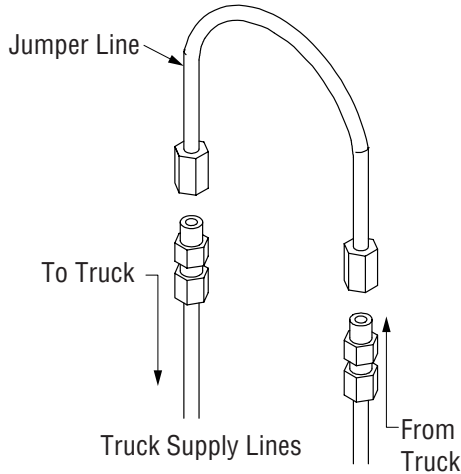

Figure 4-2, Jumper Line
5. For fork-mounted versions (LPF), these additional specifications apply (Figure 4-2):